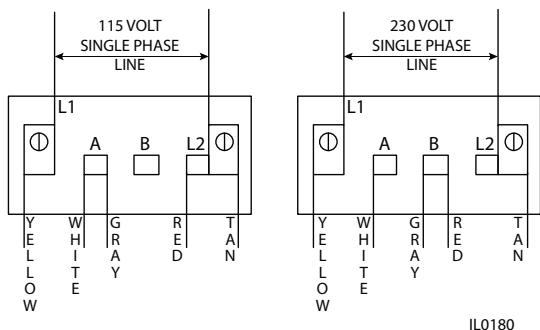

Figure 8 - F&W Wiring Diagram for Single Phase
⚠ *Use wire size specified in wiring Chart E. If possible, connect pump to a separate branch circuit with no other appliances on it. If wiring diagram on motor model plate differs from diagram shown in figures 8, 8A, 9 & 10, follow diagram on motor.*
2. To change voltage, remove the rear access cover, which is held in place with two (2) screws. For proper electrical connection, refer to the connection diagram located on the motor nameplate or figures 8, 8A, 9, 10, 11 & 12.